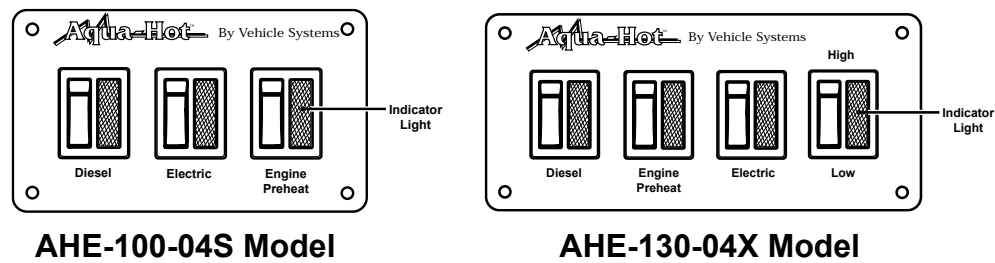

Figure 3
Turn the **Diesel** switch **ON**; reference **Figure 3**. This procedure will activate the Diesel-Burner and the indicator light located on the Diesel switch. Allow 10-20 minutes for the Aqua-Hot System to reach operating temperature. Please note that the Diesel-Burner is the **primary heat source** for heating both the interior and the domestic hot water (such as when cool ambient temperatures exist and/or when there is a high demand for domestic hot water).
Turn the **Electric** switch **ON**; reference **Figure 3**. This procedure will activate the 120 VAC Electric Heating Element and the indicator light located on the Electric switch. Allow 1-2 hours for the Aqua-Hot System to reach operating temperature. Please note that the Electric Heating Element is a **secondary heat source** for heating both the interior and the domestic hot water during low heating demand situations (such as when moderate ambient temperatures exist and/or when there is a low demand for domestic hot water).
Turn the **Electric** switch **ON** in conjunction with the High / Low switch placed in the **LOW** position; reference **Figure 3**. This procedure will activate one of the two 120 VAC Electric Heating Elements and the indicator lights located on both the Electric and High / Low switches. Allow 1-2 hours for the Aqua-Hot System to reach operating temperature.
Turn the **Electric** switch **ON** in conjunction with the High / Low switch placed in the **HIGH** position; reference **Figure 3**. This procedure will activate both of the 120 VAC Electric Heating Elements and the indicator lights located on both the Electric and High / Low switches. Allow 0.5-1 hour for the Aqua-Hot System to reach operating temperature.
- A.** Turn the Aqua-Hot’s **Engine Preheat** switch **ON**; reference **Figure 3**. This procedure will activate the Engine Preheat Circulation Pump and circulate the engine’s coolant through the Engine Preheat System. This feature will adequately warm the engine for easy start-ups on cool mornings.
Reference Figure 3 for all numbers indicated inside parentheses. (e.g., #8).